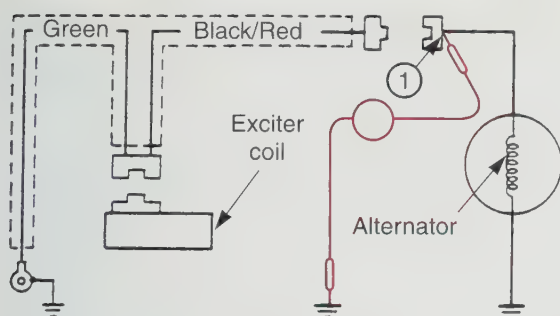

Figure 5-43. Checking for faulty exciter coil. (Honda Motor Co., Ltd.)
2. Faulty exciter coil. Disconnect the alternator connector and measure the resistance to ground. Compare the resistance values at points 1 measured and 2, **Figure 5-43**. If the two values are not the same, suspect a broken black/red wire or a loose alternator connector. If both resistance values are the same, but not in the correct range, the exciter coil or alternator coil may be faulty.